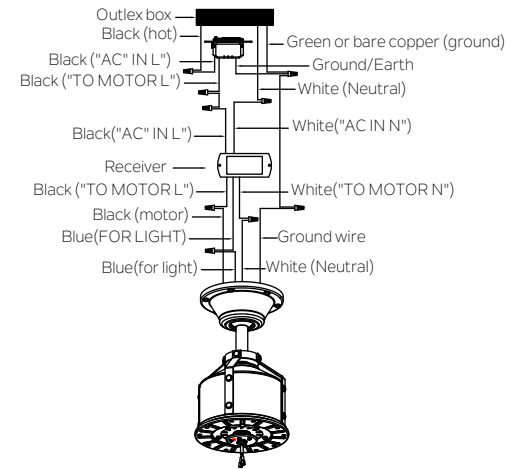

Fig. 13
Step 2. Motor to Receiver Electrical Connections: Connect the BLACK wire from the fan to BLACK wire marked "TO MOTOR L" from the receiver. Connect the WHITE wire from the fan to the WHITE wire marked "TO MOTOR N" from the receiver. Connect the BLUE wire from the fan to the BLUE wire marked "FOR LIGHT" from the receiver. Secure all the wire connections with the plastic wire nuts provided. (Fig. 13)
Step 3. Remote Receiver to Outlet Box Electrical Connections: Connect the BLACK (hot) wire from the ceiling to the BLACK wire marked "AC IN L" from the wall control. Connect the WHITE (Neutral) wire from the ceiling to the WHITE wire marked "AC IN N" from the receiver. Connect the BLACK (To Motor L) wire from the wall control to the BLACK wire marked "AC IN L" from the receiver. Secure the wire connections with the plastic wire connectors provided. (Fig. 13)
Step 4. If your outlet box has a ground wire (green or bare copper) connect it to the fan ground wire : otherwise connect the fan ground wire to the mounting bracket. Secure the wire connection with a plastic nut provided. After connecting the wires, spread them apart so that the green and white wires are on one side of the outlet box and black and blue wires are on the other side. (Fig. 13)